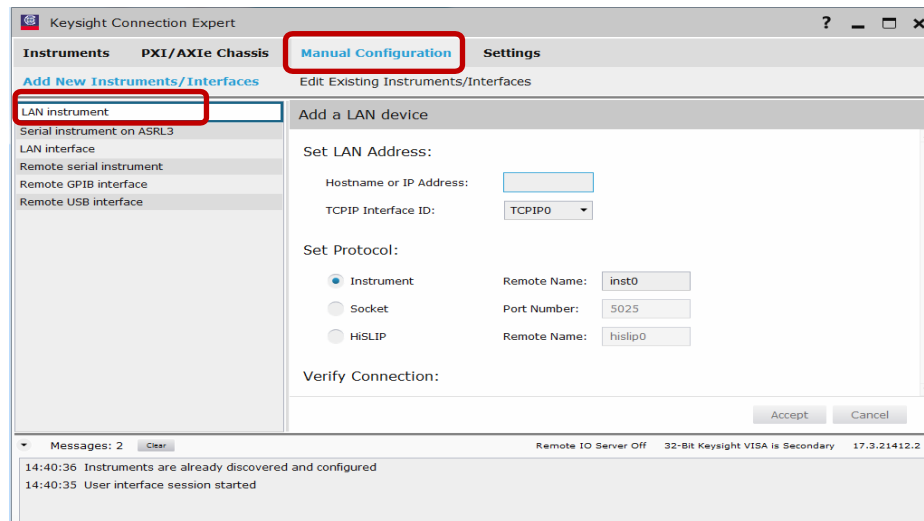

Figure 6
- 1) As shown in Figure 6, open the connection software **Keysight Connection Expert** select **Manual Configuration** and **LAN Instrument** ;